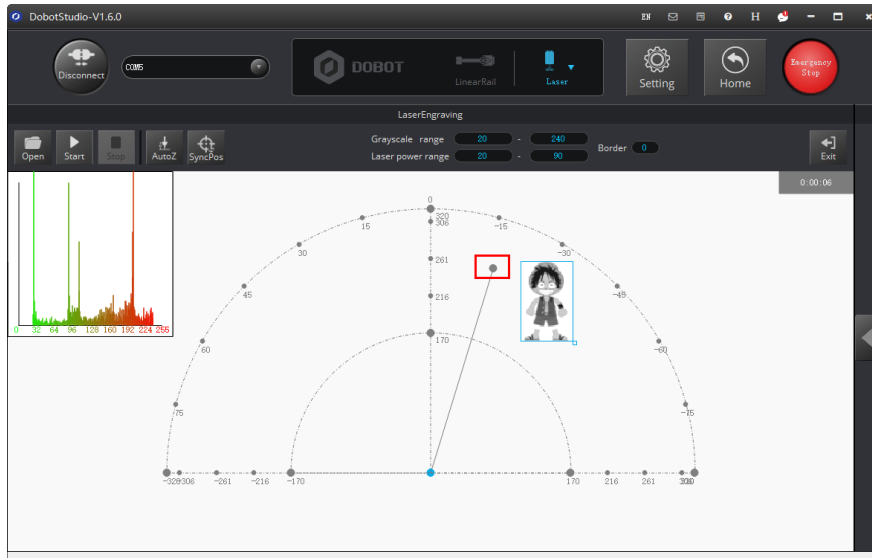

Figure 5.100 The point corresponding to the laser kit of the robotic arm
- The point marked by a red box, as shown in Figure 5.100, corresponds to the position of the laser kit of the Dobot Magician. This point changes its position only within the annular area when the robotic arm moves.